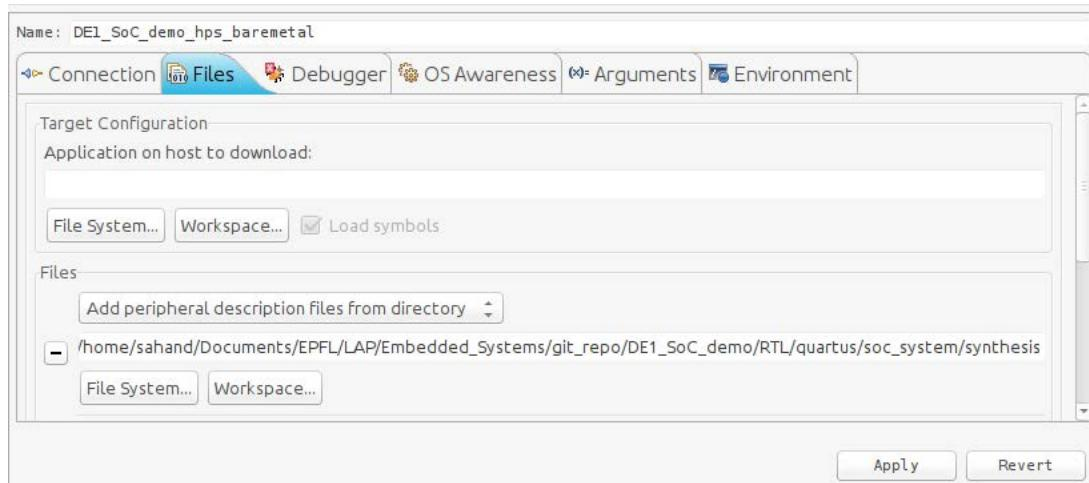

Figure 8-30. Debug Configuration "Files" Tab
- In 8.3.3.2, we configured our HPS to use some FPGA peripherals. We can instruct the debugger about this so it can show more detailed information when debugging. To do this, set the combobox to “Add peripheral description files from directory” and set it to the “DE1_SoC_demo/RTL/quartus/soc_system/synthesis” directory, as shown in Figure 8-30. This directory contains a file called “soc_system_hps_0.hps.svd” which has information on all of the HPS’ peripherals which are in the FPGA fabric.